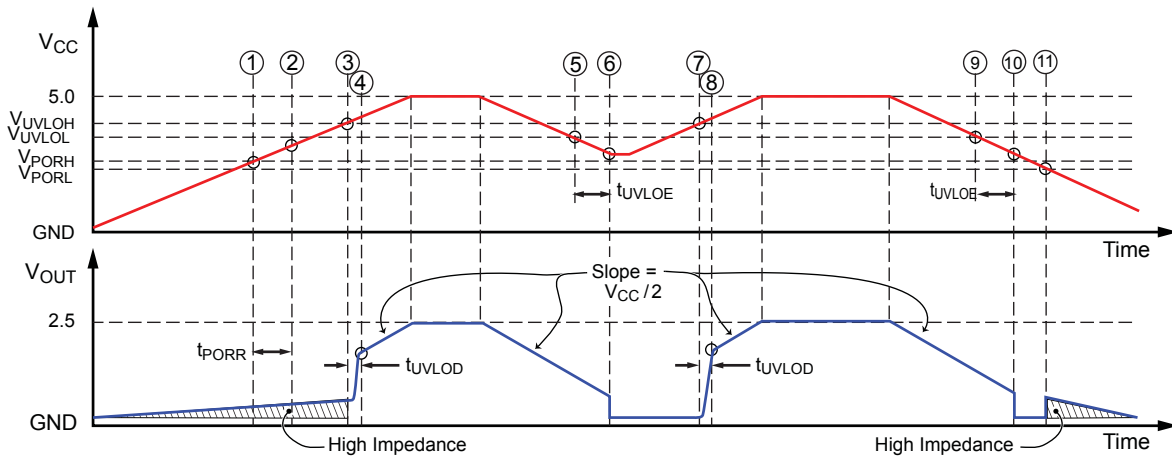
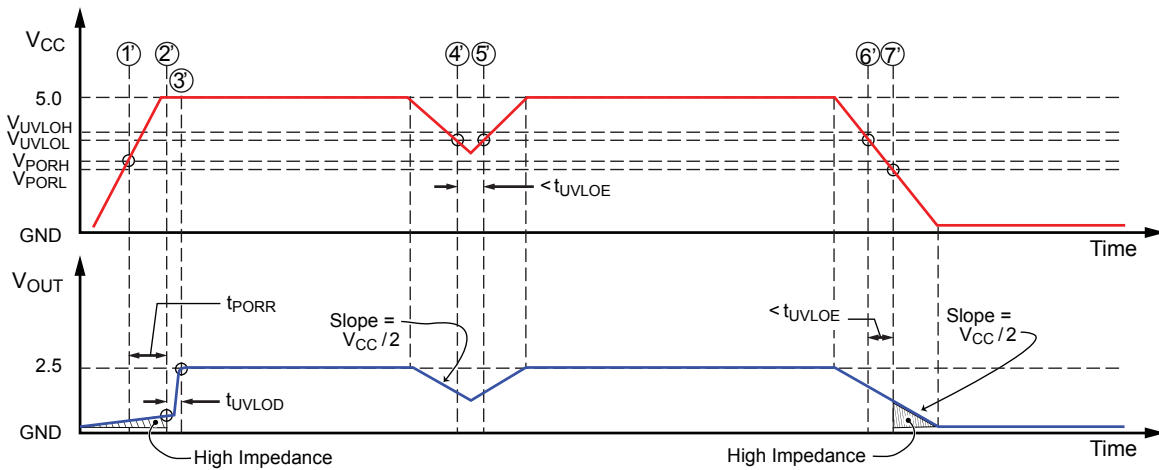

Figure 1. POR and UVLO Operation: Slow Rise Time case
Figure 2. POR and UVLO Operation: Fast Rise Time case
The reference numbers section refer to figures 1 and 2.
- **Power-Up** At power-up, as  $V_{CC}$  ramps up, the output is in a high impedance state. When  $V_{CC}$  crosses  $V_{PORH}$  (location [1] in figure 1 and [1'] in figure 2), the POR Release counter starts counting for  $t_{PORR}$ . At this point, if  $V_{CC}$  exceeds  $V_{UVLOH}$  [2'], the output will go to  $V_{CC} / 2$  after  $t_{UVLOD}$  [3'].